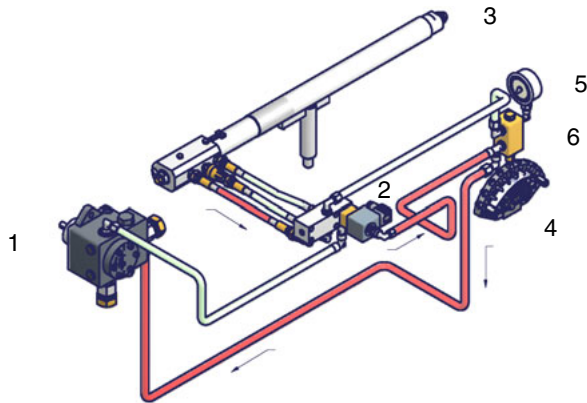

Fig. 4 - Stand-by
- 2 screw the studbolts (5) on the boiler door, according to the drilling plate (see paragraph "Overall dimensions");
- 8 fix the burner to the stud bolts, by means of the fixing nuts, according to Fig. 4.